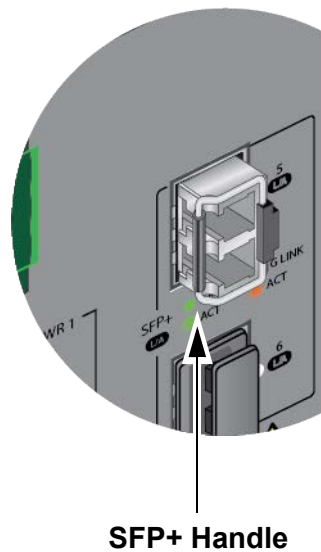

Figure 28. Verifying the Position of the SFP+ Handle
5. Verify the handle on the transceiver is turned to the left. Refer to Figure 28.